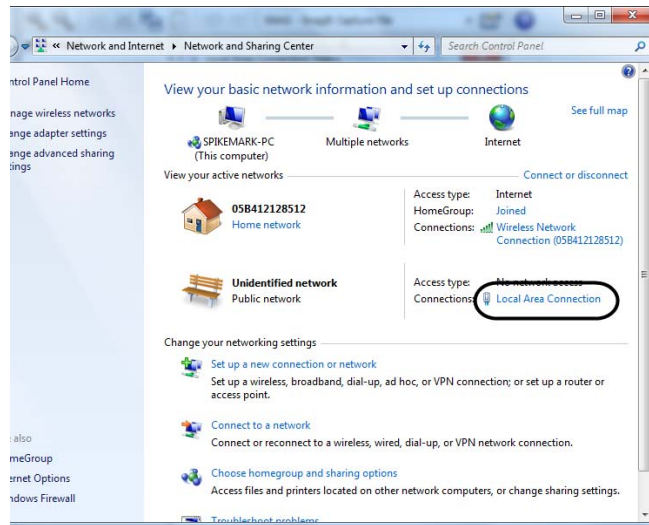

Figure 66
4. Click on the **Local Area Connection** link (Figure 66).